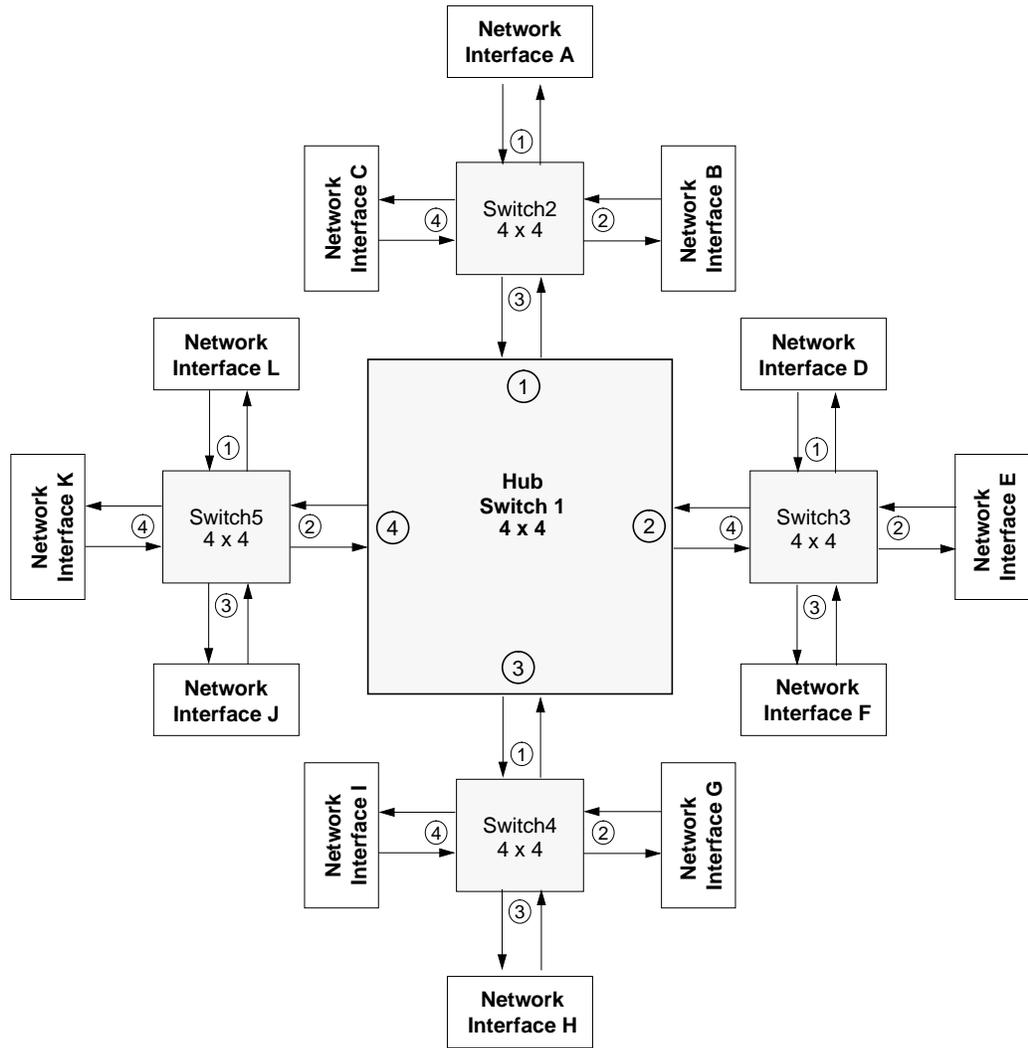
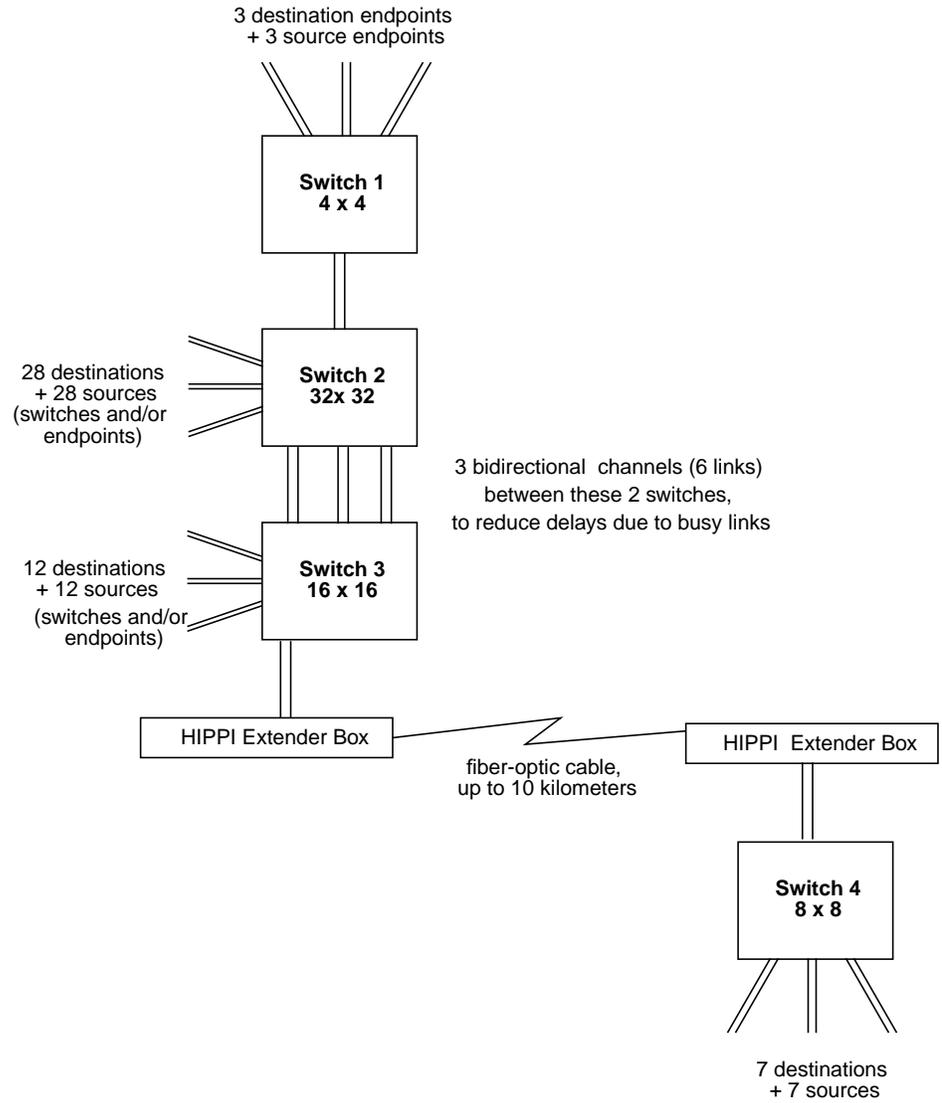

Figure 1-21 HIPPI Network Configurations With Multiple Switches
Figure 1-22 Complex HIPPI Network Configuration
Figure 1-21 illustrates a network with multiple switches, and Figure 1-22 illustrates a complex HIPPI network including a long-distance fiber optic link and multiple ports between switches to improve connection setup time by reducing the probability of encountering a busy link.
- If a network is built according to the guidelines in Appendix B of RFC 1374, the recommended maximum number of hops (switches) between any two endpoints is three. This limit has major implications for the structure and size of a HIPPI network. The structure is limited to a single hub switch with satellite switches attached to the hub's ports, but no switches attached to any satellite ports. Figure 1-21 shows an example of an RFC 1374-compliant network. Table 1-7 summarizes the maximum number of switches and endpoints possible for a network in which switches of only one size are used throughout the network.